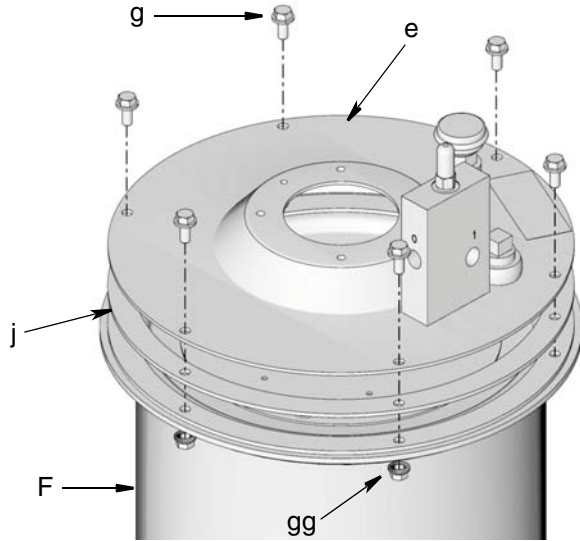

FIG. 9
6. Install cover (e) over gasket (j) on reservoir (F) (FIG. 9).